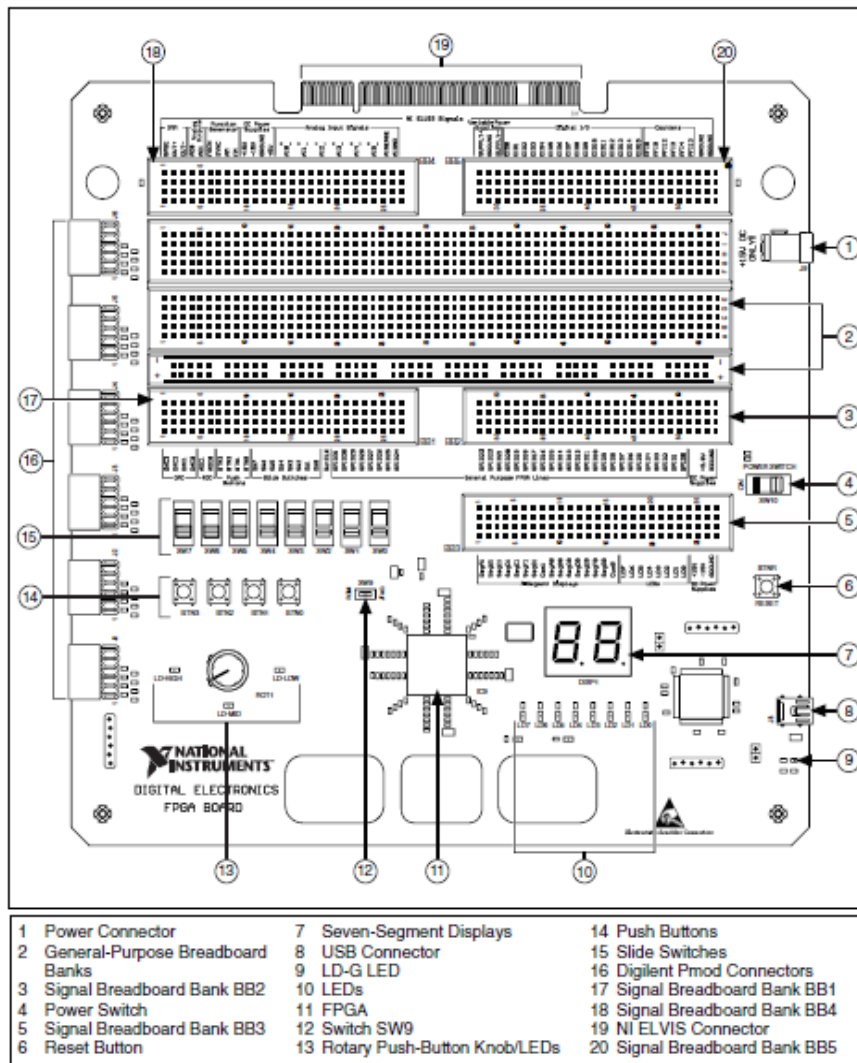

Figure 2: The NI Digital Electronics FPGA Board
3.1. The NI FPGA board features (shown in Figure 2):
- Eight slide switches, SW0 through SW7 (15)
- Four momentary-contact push-buttons, BTN0 through BTN3 (14)
- Eight individual surface-mount LEDs, LD0 through LD7. Each LED is connected on one side through a 390Ω current-limiting resistor to the power line (10)
- Two digit seven-segment display, DISP1, in a common cathode configuration. (7)
- Rotary push-button knob, ROT1, that is used to set the frequency range and value inside the range for an external clock generated by a microcontroller. (13)